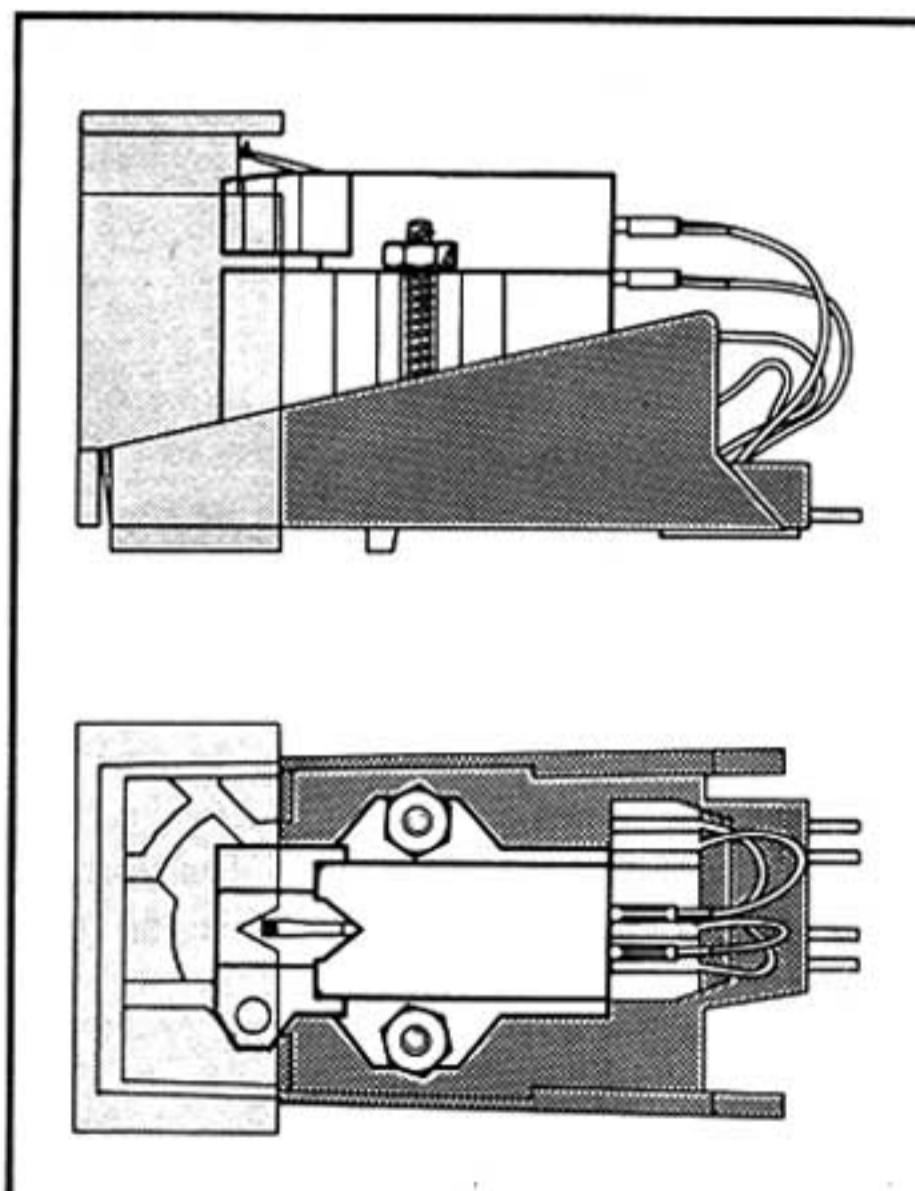

Fig. 14
2. Fasten the cartridge with the help of the mounting accessory supplied with the cartridge holder Dual TK 14 and the cartridge. Be sure it is located correctly (Fig. 14).